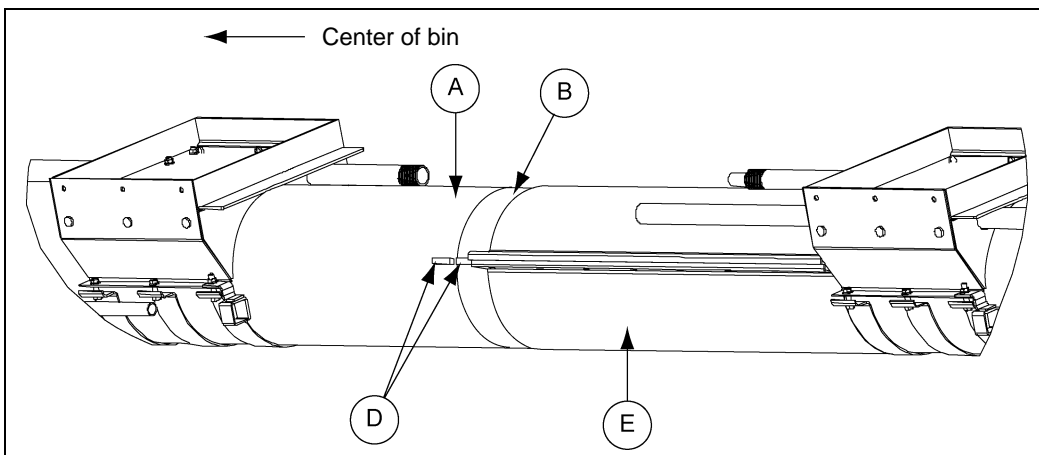

Figure 4J
2. Position the outer unload tube (B) assembly flush against the inner unload tube (A) assembly, aligning the two (2) keyways (D) so that they are in line and making sure all of the intermediate wells are level with the centerwell. (See Figure 4J.)